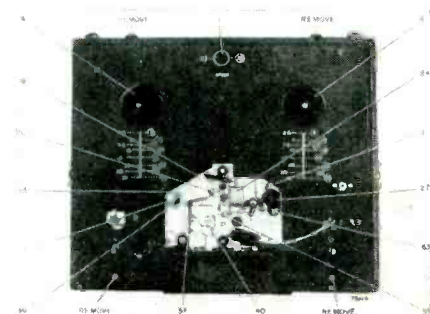

Fig. 2 — Parts shown in this view may be checked in Parts List.
3. Using a pencil type postal scale secured or hooked to the end of the pressure pad mounting spring (item 33, Fig. 2 and Fig. 7), check the amount of pressure necessary to just pull the pad from the tape.
4. Optimum pressure of the pad occurs at a reading of 1 3/4 ounces \pm 1/4 ounce. The record-play head pressure pad is adjusted by the adjustment screw (item 40, Fig. 2 and Fig. 7). Unlocking and rotating this screw clockwise increases pressure. Unlocking and rotating this screw counter-clockwise decreases pressure. Be sure to relock the screw after completing this adjustment.
5. The guide post pressure pad (item 39, Fig. 2 and Fig. 7) must be adjusted for minimum pressure against the tape. This adjustment is made by bending the pressure pad spring in or out with a pair of long-nosed pliers.
(item 113, Fig. 2 and Fig. 7) to see if it is parallel with the tape. If it is not, loosen the retaining screw (item 19, Fig. 2) just enough so that the head can be pivoted into a parallel position and then retighten the screw.
4. Look at the tape and the erase head from the forward view to determine if the top edge of the tape coincides with the top end of the diagonal slot in the erase head. If they are not coincident, correction is made by adjusting the level of the tape. To do this, loosen the lock nut (item 17, Fig. 2) atop the tape guide post and rotate the guide post to move the tape up or down. Tighten the lock nut.
5. After this adjustment has been made, depress the RECORD key and observe whether or not the tape moves forward approximately 1/64". If not, loosen the forward adjustment screw (item 20, Fig. 2) and turn the screw in or out as required to obtain this 1/64" adjustment. Tighten the lock nut on item 20.